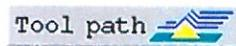

Figure 13 Image of the Tool Path Icon
- vi. Click the **Tool Path** Icon to create a path for the machine (Figure 13).